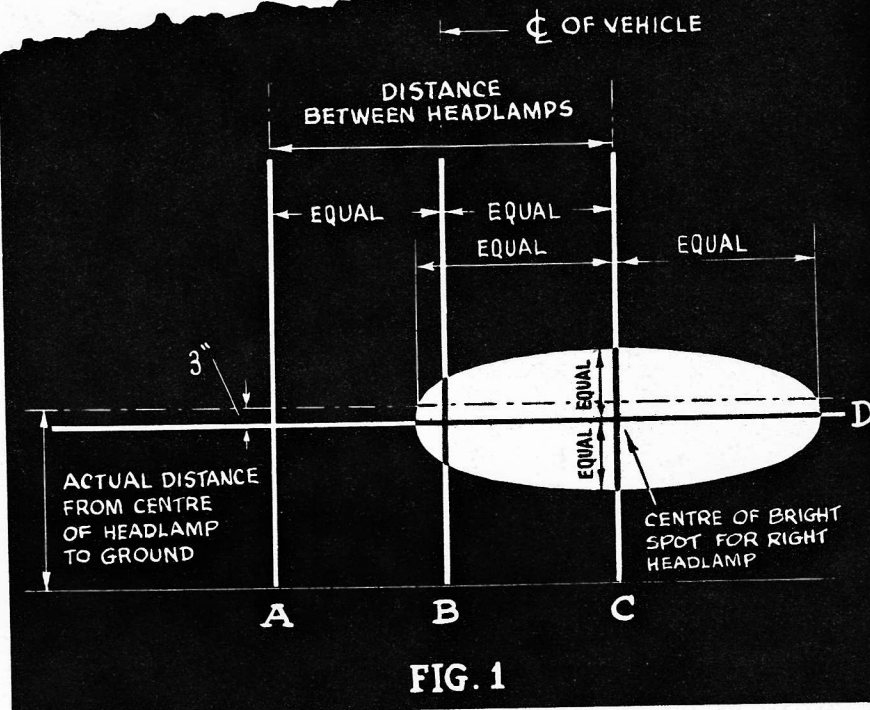
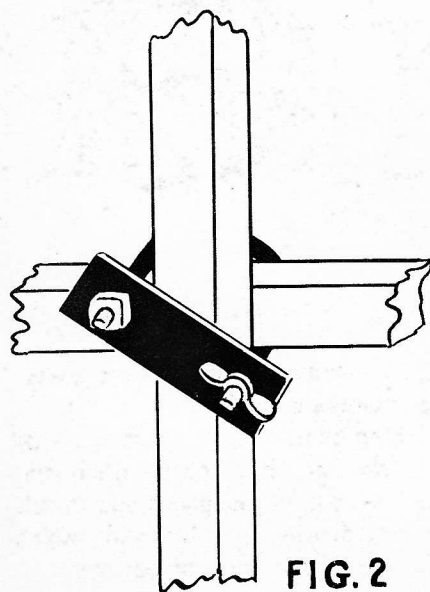

FIG. 1
FIG. 2
lines as shown in the diagram. As the distance between headlights and their distance above the ground will vary with each type of vehicle you may need several screens to take care of all your vehicles. If you want to really do a smart job, get hold of some 2" x 1" or 1" x 1" wood and make up this universal aiming gauge. You need four poles—one of them 10 or 12 feet long for your horizontal line (D) (Fig. 1) three of them approximately five feet long for your vertical lines (A-B-C) (Fig. 1). Three 'U' clamps will hold them together (Fig. 2) and allow you to adjust them for any type of vehicle by following the diagram. Paint them white and lean them against a light coloured wall and you're all set to start aiming.